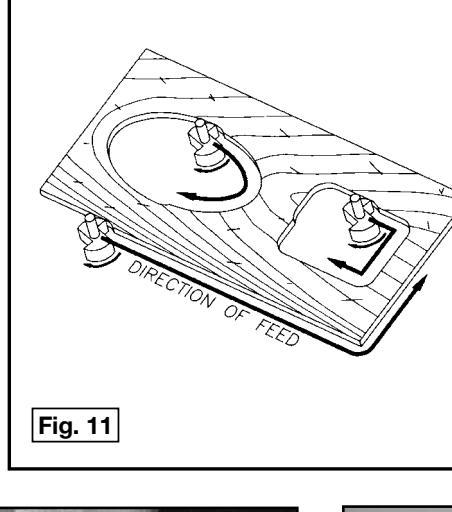

Fig. 11
- Avoid Climb-Cutting (cutting in direction opposite that shown in Fig. 11). Climb-Cutting increases the chance for loss of control resulting in possible injury. When "Climb-Cutting" is required (backing around a corner), exercise extreme caution to maintain control of router. Make smaller cuts and remove minimal material with each pass.
WARNING: Avoid "Climb-Cutting" (cutting in direction opposite that shown in Fig. 11). "Climb-Cutting" increases the chance for loss of control resulting in possible injury. When "Climb-Cutting" is required (backing around a corner), exercise extreme caution to maintain control of router. Make smaller cuts and remove minimal material with each pass.